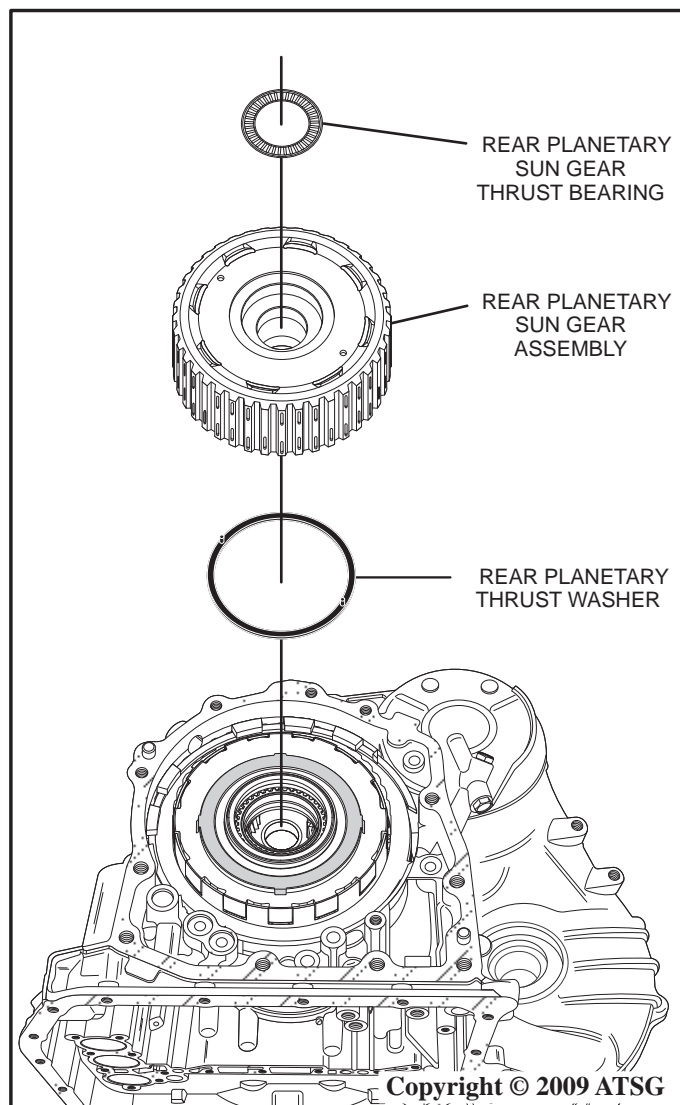

Figure 166
39. Install the rear planetary sun gear assembly using a twisting motion as shown in Figure 166.
40. Coat the rear planetary sun gear thrust bearing with a small amount of Trans-Jel® and install onto the rear planetary sun gear as shown in Figure 166.